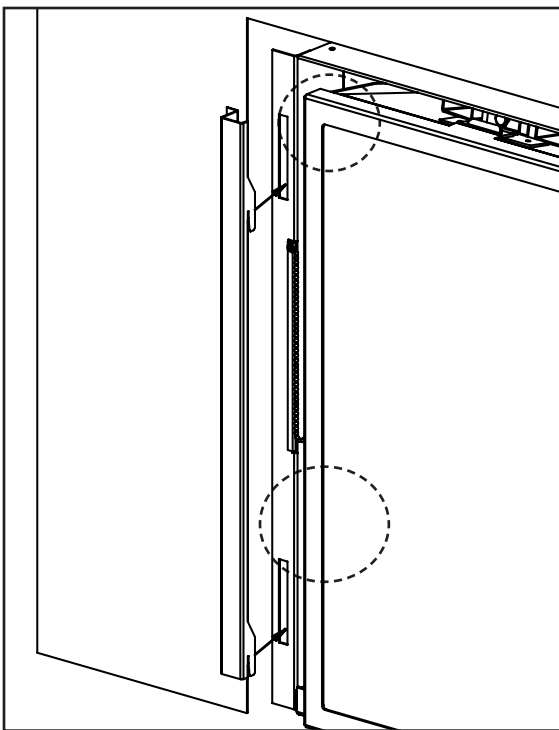

Figure 41: Panel Slot and Hook Locations
2. Install the Trimmable Panel by securing the four hooks onto the corresponding slots that are on the front of the E44 unit (See Figures 41 and 42)